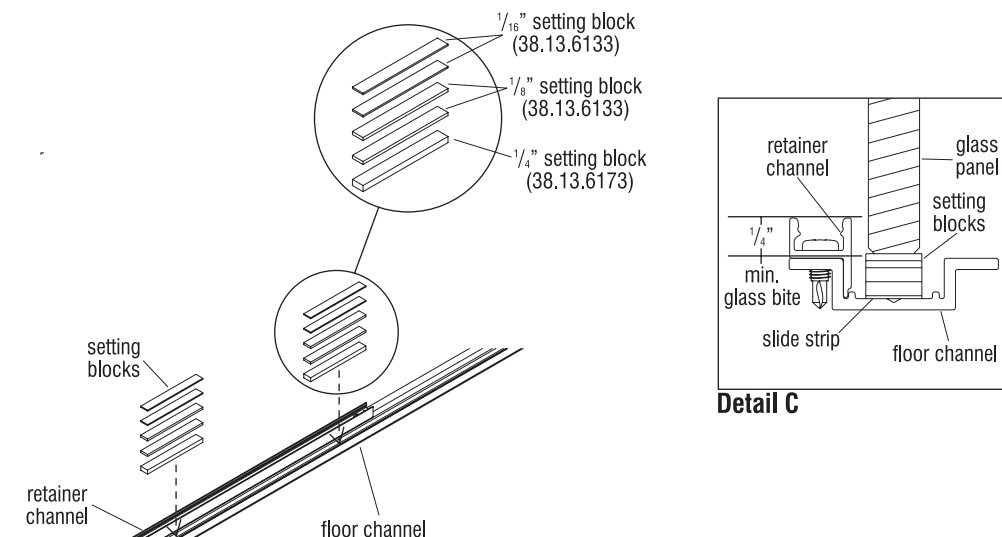

Figure 2
3. Ensure that a retainer channel is installed to the opposite side which a panel will be installed from as described on page 17, Figure 1. Setting blocks are different heights to aid in leveling a glass panel and assuring panels are plumb to each other when installed. Glass panels may be "stepped" with use of setting blocks to achieve level/plumb (Figure 2 & Detail C).
4. Place appropriate height setting block(s) at marked locations in the floor channel per Detail B Chart, page 17. Use a tall enough bottom block, or set of blocks to ensure that the glass clears the floor channel mounting hardware, but that the glass does not set above minimum glass bite limit of $\frac{1}{4}$ " in the floor channel and also engages $\frac{3}{4}$ " up in the ceiling channel. A dry fitting of components may be necessary to achieve a level/plumb panel (Figure 2 & Detail C).